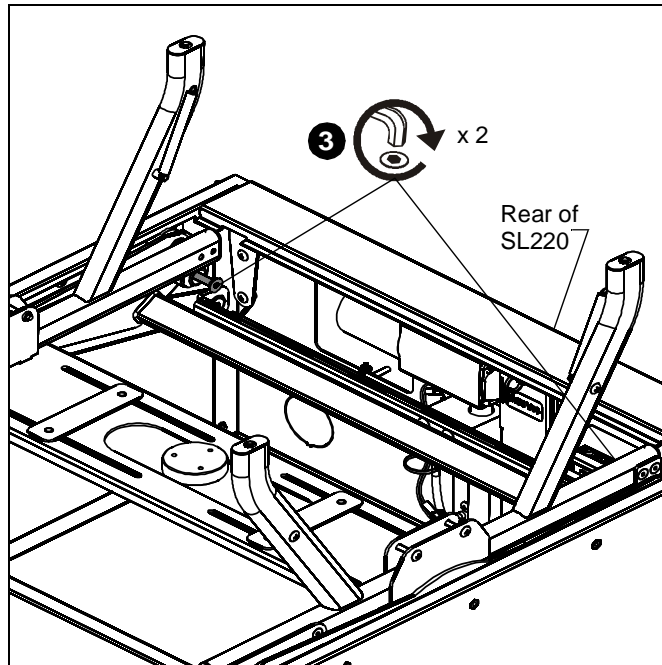

Figure 7
2. Line up rear spacers with attachment holes on SL220 arms. (See Figure 7)